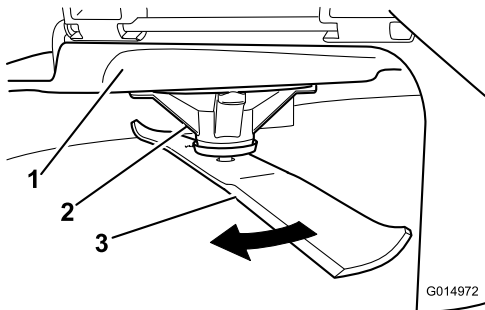

Figure 57
2. While wearing thickly padded gloves, or other adequate hand protection, slowly rotate the blade into a position that allows you to measure the distance between the cutting edge and the level surface the machine is on (Figure 57).